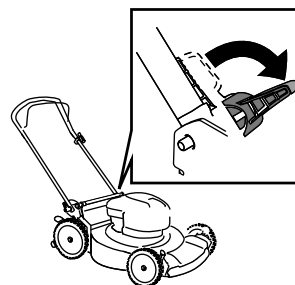

Figure 19
3. Disengage the handle locks (Figure 19).